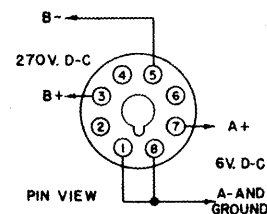

Figure 7. D-C Power Plug Connections
| Figure 7. D-C Power Plug Connections. . . . .                             | 8           |
b. **D-C Operation.** - To operate the receiver from external batteries delivering 6-volts at 4.5 amperes and 270-volts at 145 milliamperes (or from a vibrator supply of like capacity), connect plug PL2 as shown in figure 7 and insert it in socket SO1 in place of the jumper plug used for a-c operation.